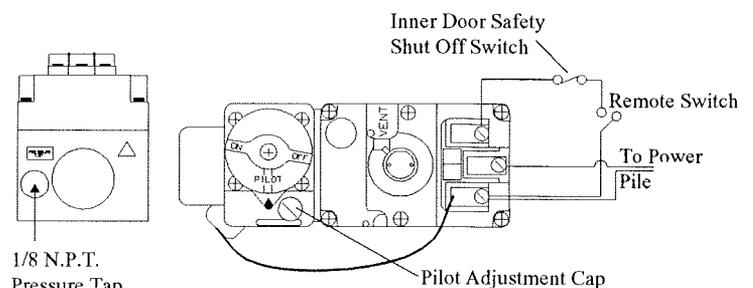

FIGURE 10. GAS CONTROL VALVE
The Econo Plus 36DV-RV is equipped with a remote-operated valve, located behind the removable brass grille, to the right of the gas control valve (refer to figure 10.) The valve is pre-wired and completely self contained to generate its own power **DO NOT** connect any external power to it. **Note:** The switch location must not exceed 30' from fireplace.
To light pilot it is necessary that you remove outer and inner glass door (refer to sections on glass door removal). The gas control valve is located behind the brass trim in the centre of the fireplace (see Figure 10 below). Before lighting the pilot, make sure that the gas line is connected and the gas shut-off valve is turned to the ON position. To light the pilot we recommend the use of a long match or removal of log "B":
1. Remove Pilot Adjustment Cap. (see figure 10)
The appliance should be inspected before use and at least annually by a professional service person. More frequent cleaning may be required due to excessive lint from carpeting, bedding material, etc. It is imperative that burner control compartments, burners and circulating air passageways of the appliance be kept clean. For your convenience a 1/8" pressure tap is supplied on the gas valve for a test gauge connection. See Figure 10. For **Natural gas** the gas line requires an inlet pressure of 7" W.C. and a manifold pressure of 3.5" W.C. For **Propane gas** the gas line requires an inlet pressure of 11" W.C. and a manifold pressure of 10.5" W.C. Always keep the fireplace area clear and free of combustible materials, as well as gasoline and other flammable vapours and liquids.